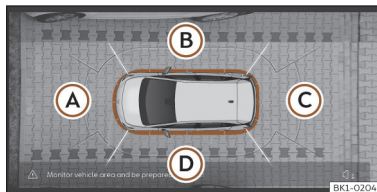

Fig. 146 Display of the Area View system: aerial view.
There are four different views to choose from >>> **Fig. 146:**
The aerial view is generated by combining the images from all the cameras >>> **Fig. 146**. The top view can be selected by pressing the vehicle inside the zone.
Press on the different areas >>> **Fig. 146** (A) to (D) of the top view or reduced top view to select and set the corresponding view, which will be highlighted in orange.